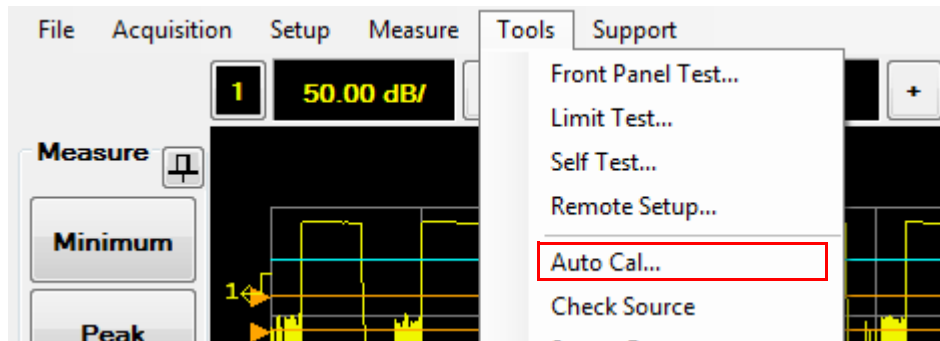

Figure 2-140 Auto Cal... selection in the Tools menu
- 1 Select **Tools > Auto Cal...** on the toolbar as shown in Figure 2-140.